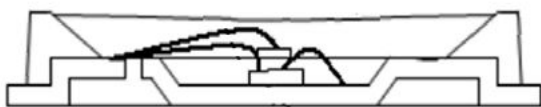

Figure 2: Diagram of an SMD LED
2. Surface-mount device (SMD) (Figure 2)